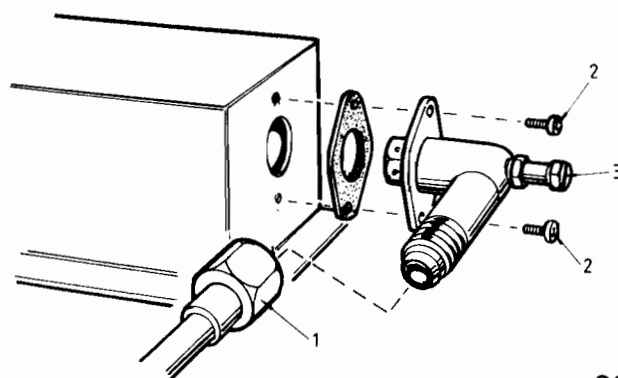

Fig. 12
- (x) Remove the burner pressure test point and fit a manometer. Fig 12 (3).